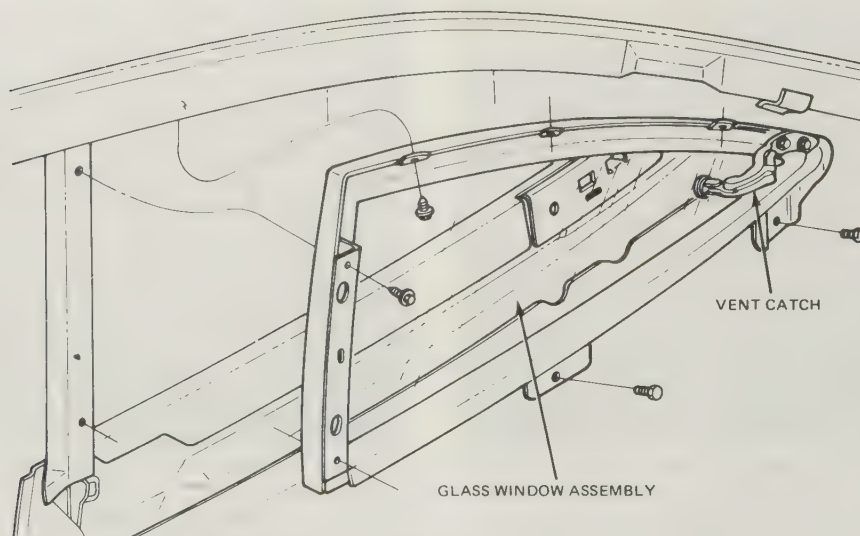

Fig. 12.11. Quarter window assembly, Hatchback pivot type (Sec. 22)
- 2 Remove the three upper window retaining screws (see Fig. 12.11).